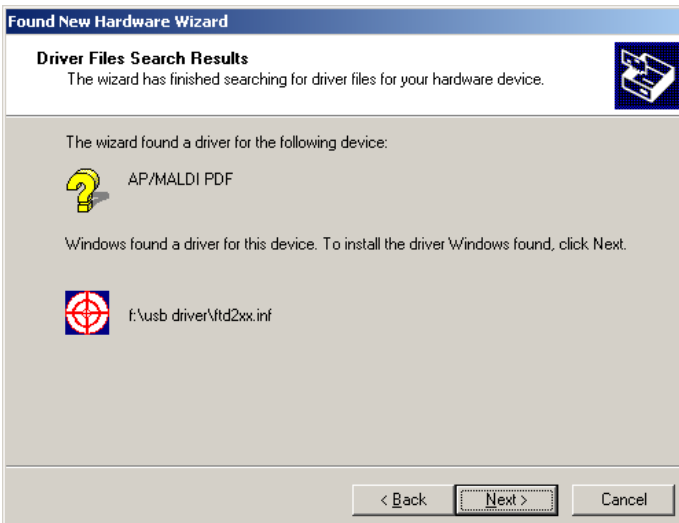

Figure 56 Correct driver found
- 7 The wizard should find the correct USB driver for the PDF-MALDI source. See Figure 56 for the correct driver name.